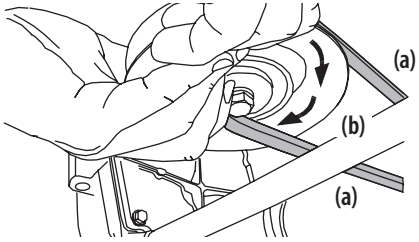

**Figure 32**
- Using the deck lift pedal and knob, raise the deck to the position that provides the most horizontal run of the belt between the deck idler pulleys and the PTO pulley on the bottom of the engine. See Figure 32 on page 27.
- Working from the middle of the tractor, pivot the idler bracket (a) and movable idler pulley (b) rearward just far enough to lift the belt up and over the spindle pulley. See Figure 32 on page 27.